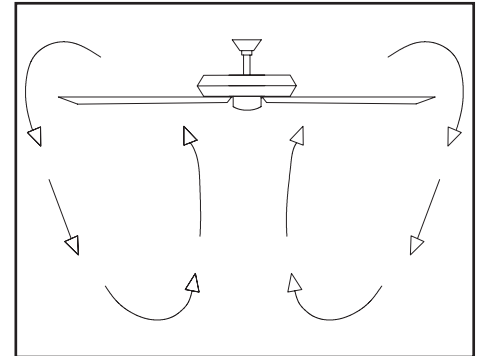

Figure 15
**Cool weather - (Reverse)** An upward air flow moves warm air off the ceiling as shown in Figure 15. This allows you to set your heating unit on a lower setting without affecting your comfort.